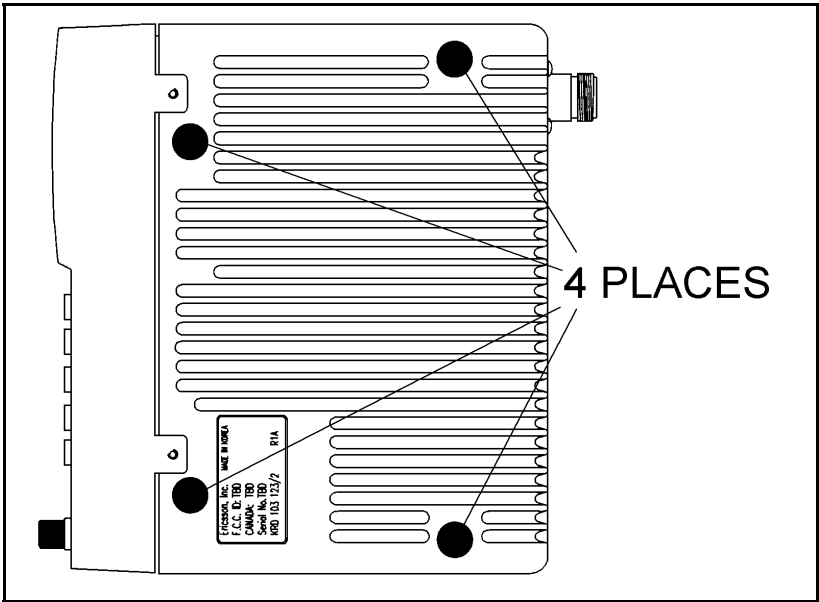

Figure 8 - Anti-Abrasion Pad Placement
1. Place the four self adhesive protective rubber pads on the bottom of the radio unit Space evenly, as shown in Figure 8.